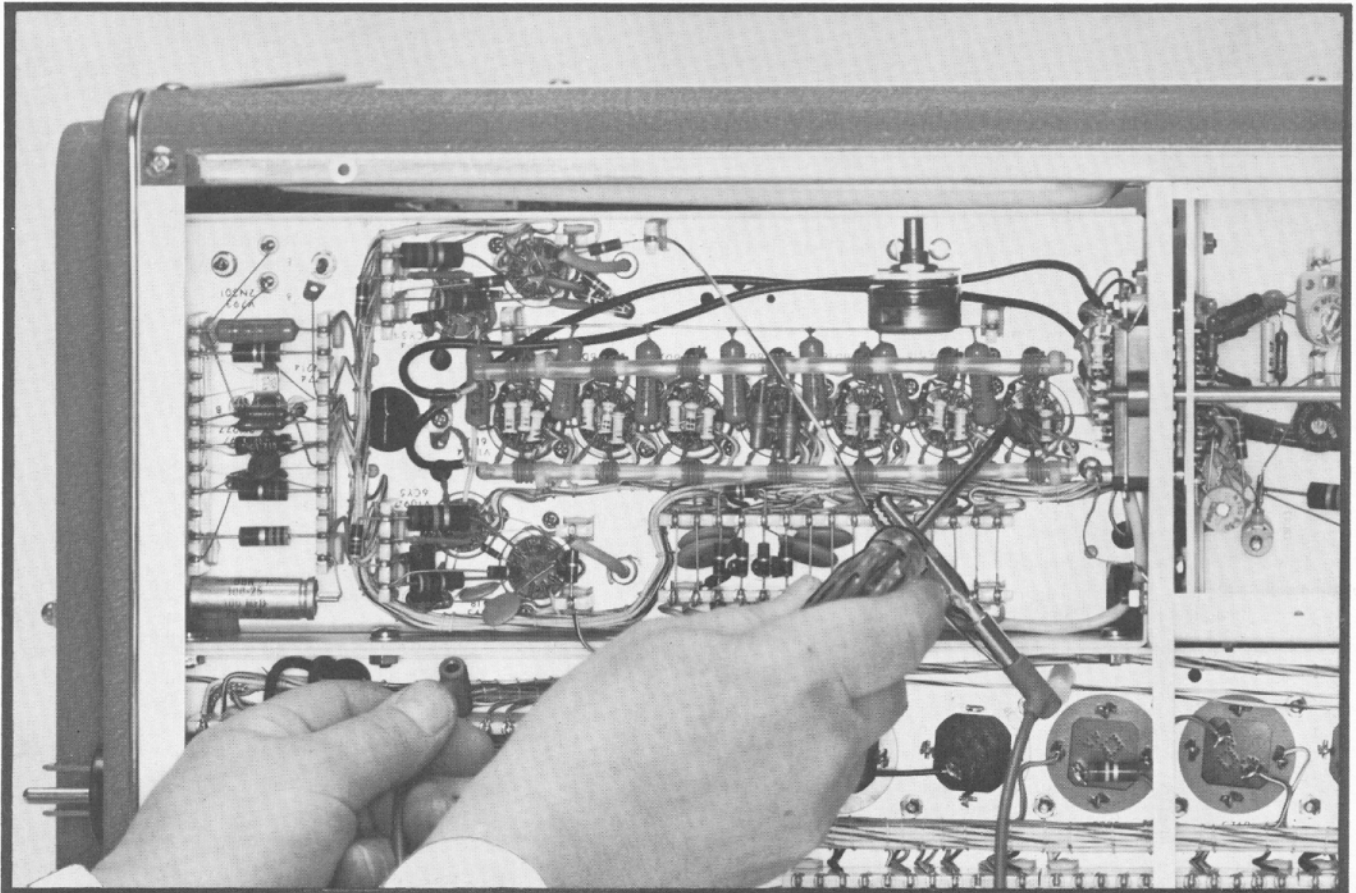

Fig. 6-11. Elevating cathodes of V1014 by applying +100 v to R1013. Be very careful to avoid grounding +100 v supply.
If the total vertical system unbalance is over 0.5 cm as you short the grid lines of the Delay Line Driver stage, it will be necessary to find the tube(s) causing the unbalance. Lay the oscilloscope on its right side. Using a clip lead and a small insulated handle screwdriver as pictured in Figure 6-11, electrically turn off the vertical amplifier tubes a pair at a time using the following procedure.
- A. In the Delay Line Driver stage the cathodes of all tubes are at about +52 volts. Thus if the voltage at pins 3 and 8 (the cathodes) can be elevated above the grid voltage, the tubes will be biased to cutoff. This can be done by elevating the cathodes to +100 volts. With a clip lead attached to the metal part of an insulated handle screwdriver, touch the screwdriver tip to the cathode end of R1013. Then touch the other end of the clip lead to the +100-volt supply as pictured in Figure 6-11. Repeat with all tubes in the Delay Line Driver stage. If more than half the tubes are unbalanced in the direction of a major unbalance, replacing one or two of them with tubes unbalanced oppositely will probably correct the problem.